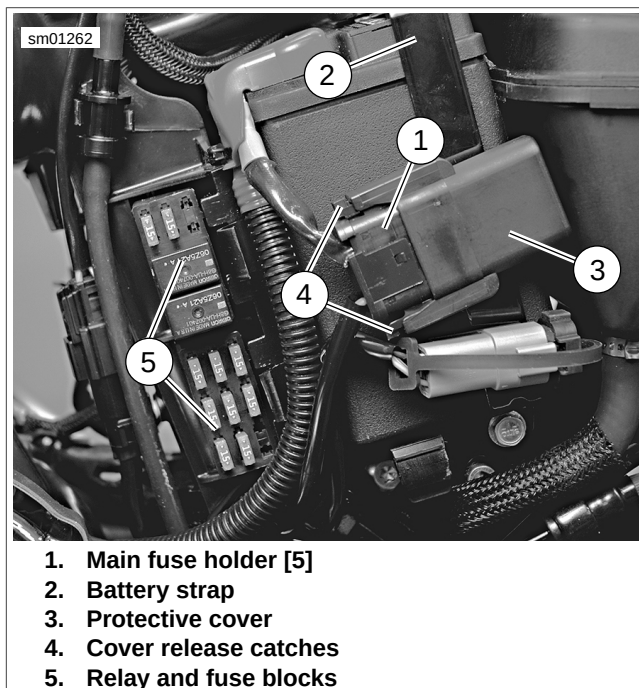

Figure 6-137. 30 Amp Main Fuse Location: All Models (XL Model Shown)
See Figure 6-137. The main fuse is located in a holder [5] (1) mounted on the battery strap (2) under the left side cover. The main fuse is rated at 30 Amperes.
2. See Figure 6-137. Squeeze cover release latches (4) together and pull fuse holder [5] (1) from protective cover (3).
3. See Figure 6-137. While holding protective cover (3) in place, push fuse holder [5] (1) into cover until cover release latches (4) snap into place.